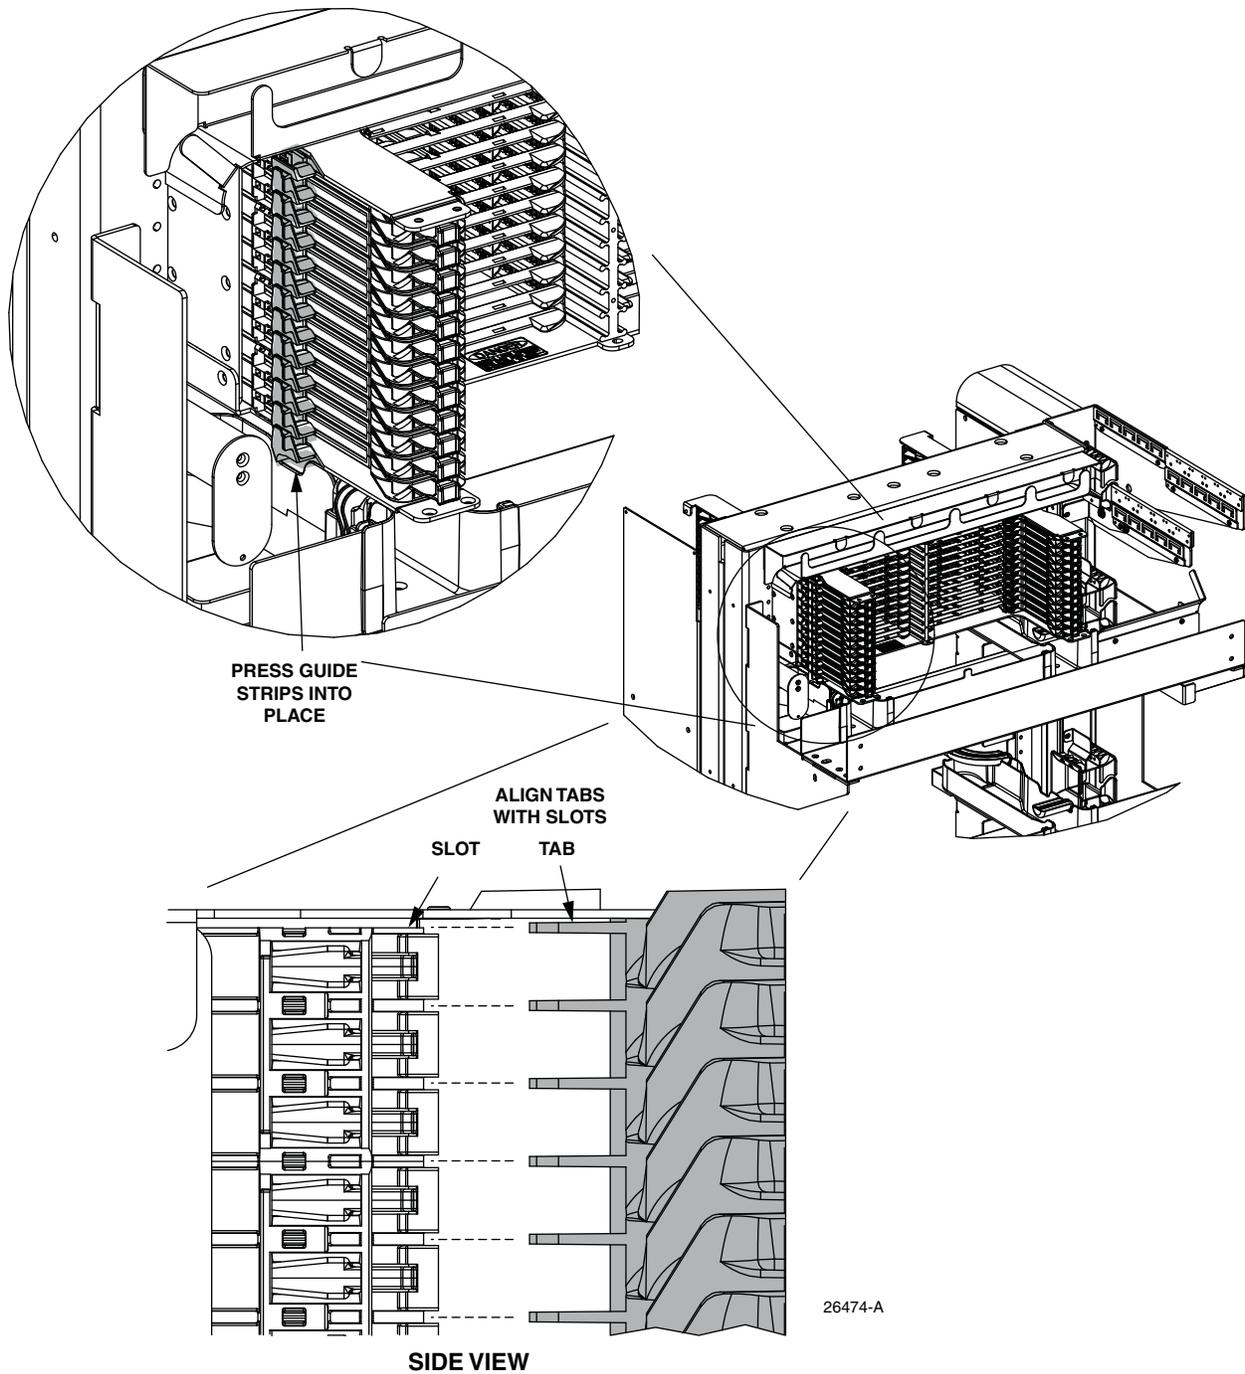

Figure 3. Installing Guide Strip On Universal E-Series Chassis
3. Install guide strips (provided) on front and rear of chassis. To install a strip, align the tabs on the strip with the slots on the chassis as shown in rear view in Figure 3, then press the radius limiters into place as shown. Repeat for all four locations.